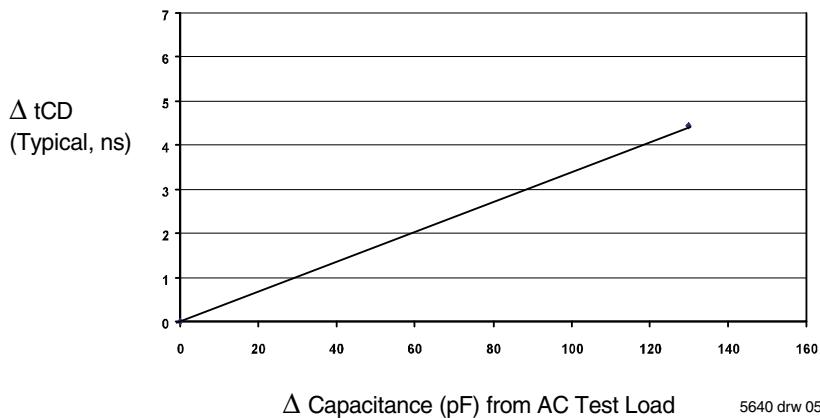

Figure 2. Typical Output Derating (Lumped Capacitive Load).
- Transition is measured 0mV from Low or High-impedance voltage with the Output Test Load (Figure 2). This parameter is guaranteed by device characterization, but is not production tested.
1. Transition is measured 0mV from Low or High-impedance voltage with the Output Test Load (Figure 2).
3. Transition is measured 0mV from Low or High-impedance voltage with the Output Test Load (Figure 2).
- Transition is measured 0mV from Low or High-impedance voltage with the Output Test Load (Figure 2).